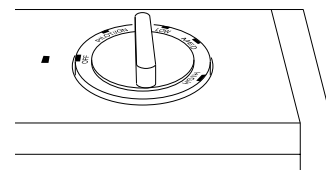

Figure 19 - Control Knob In The OFF Position
3. Turn control knob clockwise to the OFF position (see Figure 19).
4. Wait five (5) minutes to clear out any gas. Then smell for gas including near the floor. If you smell gas, STOP! Follow "B" in the safety information at left. If you don't smell gas, go to the next step.
5. Turn control knob counterclockwise to the PILOT/IGN position. Press in control knob for five (5) seconds (see Figure 19).